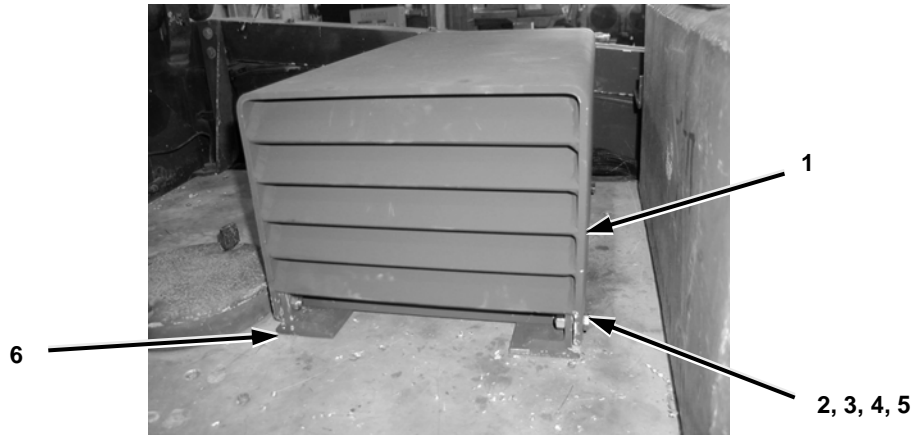

Figure 2-19. MCU Access Cover Installation.
Step 9 below applies to Figure 2-19.
9. Install the access cover (12475724) (1) on the MCU base bracket (6) with the angled and open end facing the left side of the vehicle using four cap screws (B1821BH038C150N) (2), hex nuts (12387305-9) (3) and lock washers (12387272-46) (4) and eight flat washers (12387279-14) (5).